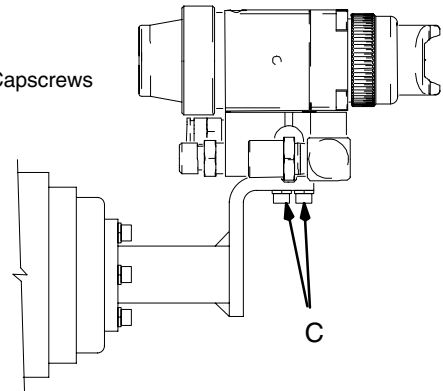

Fig. 3
To mount the gun on a stationary support, see Fig. 3. Also refer to the **Mounting Hole Layout** on page 29. Attach the gun to the support with two M5 x 0.8 capscrews (C). The screws must be long enough to engage the threaded holes in the gun manifold to a depth of 1/4 in. (6 mm). The tip of the gun should be 6 to 8 inches (150 to 200 mm) from the surface of the object being sprayed.